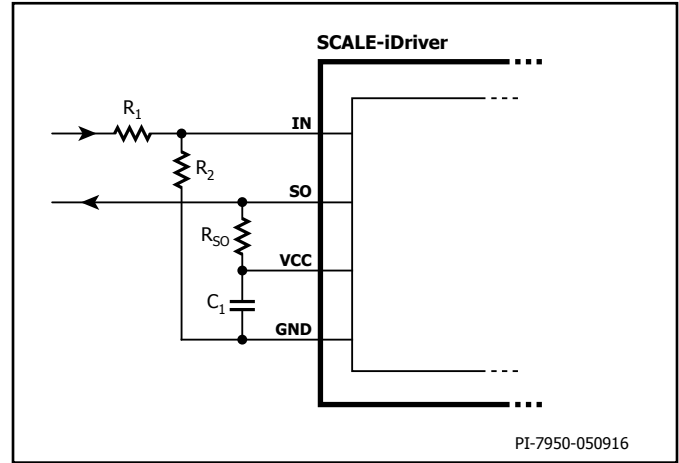
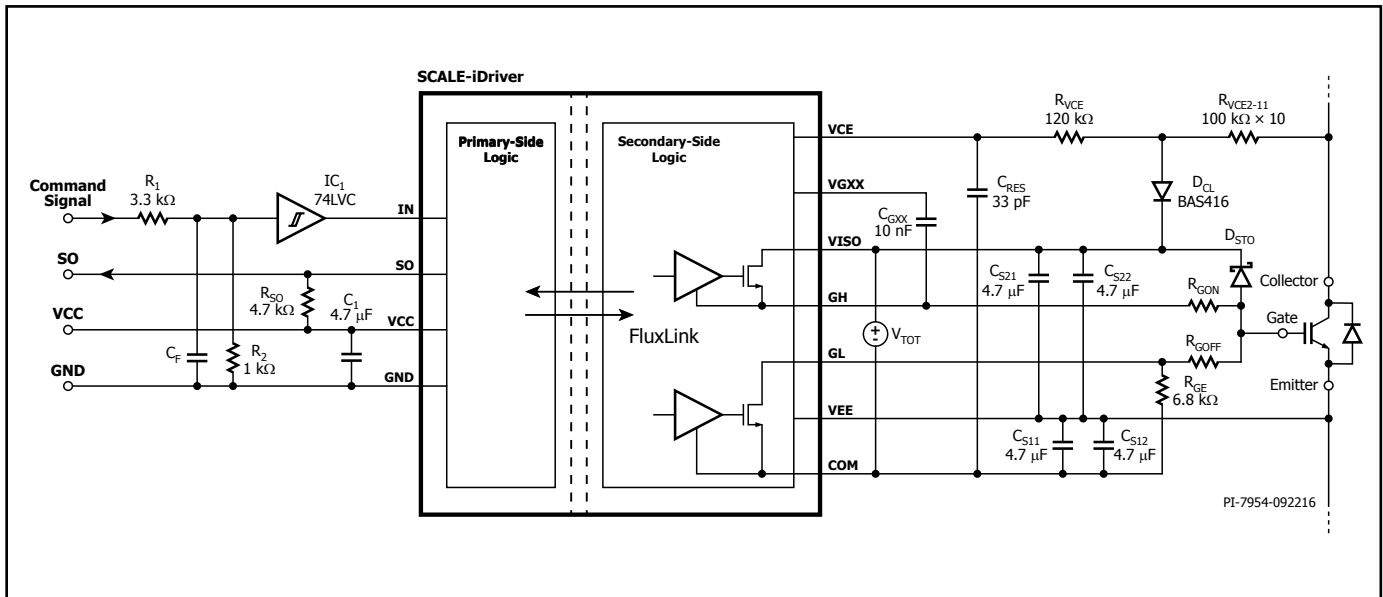

Figure 5. Increased Threshold Voltages  $V_{IN+LT}$  and  $V_{IN+HT}$  For  $R_1 = 3.3 \text{ k}\Omega$  and  $R_2 = 1 \text{ k}\Omega$  the IN Logic Level is 15 V.
Figure 13. SCALE-iDriver Application Example Using a Resistor Network for Desaturation Detection.
The input (IN) and output (SO) logic is designed to work directly with micro-controllers using 5 V CMOS logic. If the physical distance between the controller and the SCALE-iDriver is large or if a different logic level is required the resistive divider in Figure 5, or Schmitt-trigger ICs (Figures 13 and 14) can be used. Both solutions adjust the logic level as necessary and will also improve the driver's noise immunity.
and power-down. Any supply voltage related to VCC, VISO, VEE and VGXX pins should be stabilized using ceramic capacitors  $C_1$ ,  $C_{S1X}$ ,  $C_{S2X}$ ,  $C_{GXX}$  respectively as shown in Figures 13 and 14. After supply voltages reach their nominal values, the driver will begin to function after a time delay  $t_{START}$ .
Figures 13 and 14 show the schematic and typical components used for a SCALE-iDriver design. In both cases the primary-side supply voltage ( $V_{VCC}$ ) is connected between VCC and GND pins and supported through a supply bypass ceramic capacitor  $C_1$  (4.7  $\mu$ F typically). If the command signal voltage level is higher than the rated IN pin voltage (in this case 15 V) a resistive voltage divider should be used. Additional capacitor  $C_F$  and Schmitt trigger  $IC_1$  can be used to provide input signal filtering. The SO output has 5 V logic and the  $R_{SO}$  is selected so that it does not exceed absolute maximum rated  $I_{SO}$  current.
Figure 13 shows how switch desaturation can be measured using resistors  $R_{VCE2} - R_{VCE11}$ . In this example all the resistors have a value of 100 kΩ and 1206 size. The total resistance is 1 MΩ. The resistors should be chosen to limit current to between 0.6 mA to 0.8 mA at maximum DC-link voltage. The sum of  $R_{VCE2} - R_{VCE11}$  should be approximately 1 MΩ for 1200 V semiconductors and 500 kΩ for 600 V semiconductors. In each case the resistor string must provide sufficient creepage and clearance distances between collector of the semiconductor and SCALE-iDriver. The low leakage diode  $D_{CL}$  keeps the short-circuit duration constant over a wide DC-link voltage range.
Figure 15 shows the recommended PCB layout and corresponds to the schematic in Figure 13. The PCB is a two layer design. It is important to ensure that PCB traces do not cover the area below the desaturation resistors or diodes  $D_{VCE1}$  and  $D_{VCE2}$ . This is a critical design requirement to avoid coupling capacitance with the SCALE-iDriver's VCE pin and isolation issues within the PCB.